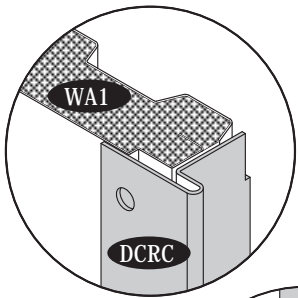

Fig.1
10. Insert the door column (DCRC) in the base 'U' channel as well as with wall panel (WA1) See fig.1&2.